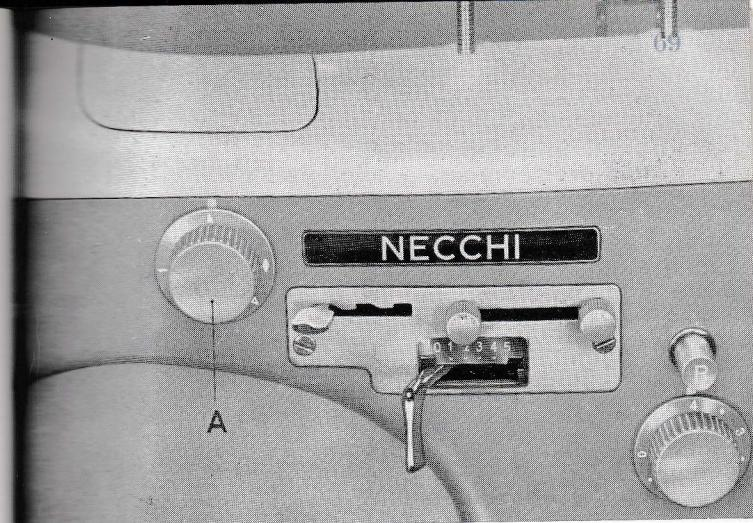

Fig. 74
## 5. THE DESIGN GRADUATING KNOB (Fig. 74)
- Turn the design graduating knob A again until its white triangle is in line with the white mark on the machine arm (Fig. 74).
- f) In window K (and window K1 in Fig. 77), the number indicates the position at which the design graduating knob has to be set (Fig. 74, page 69).